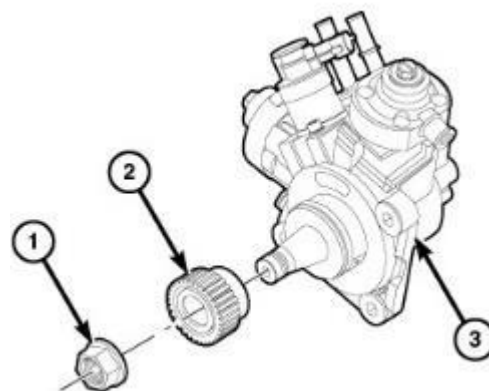

Figure 27 – Drive Gear on the HPFP
NOTE: The use of Puller 1023 or a commercially available gear puller is required to remove the fuel injection pump gear (2) (Figure 27).
33. Install the gear (2) and nut (1) onto the fuel injection pump (3) and tighten the nut (1) finger tight (Figure 27).